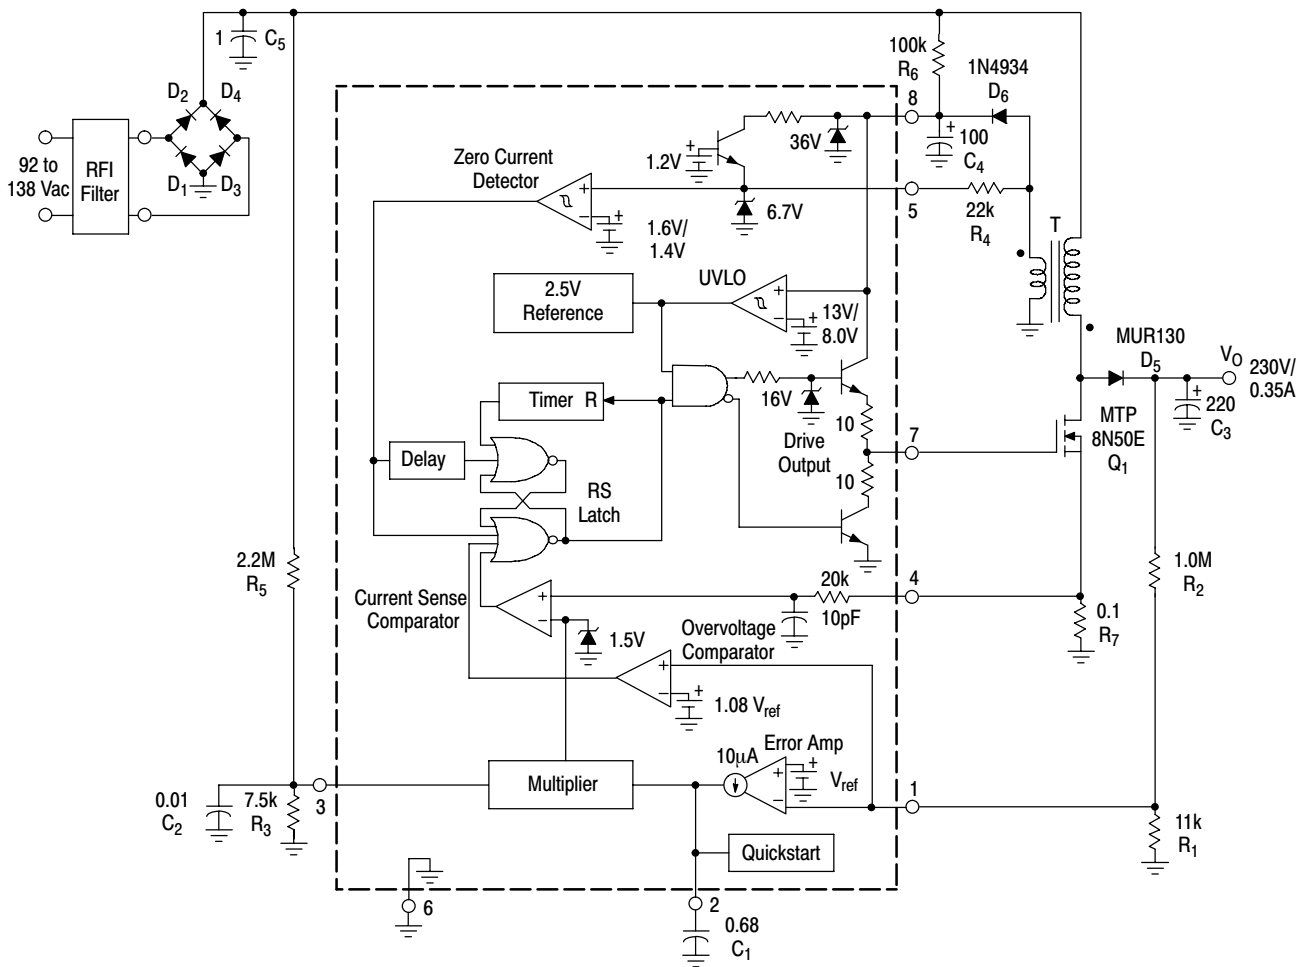
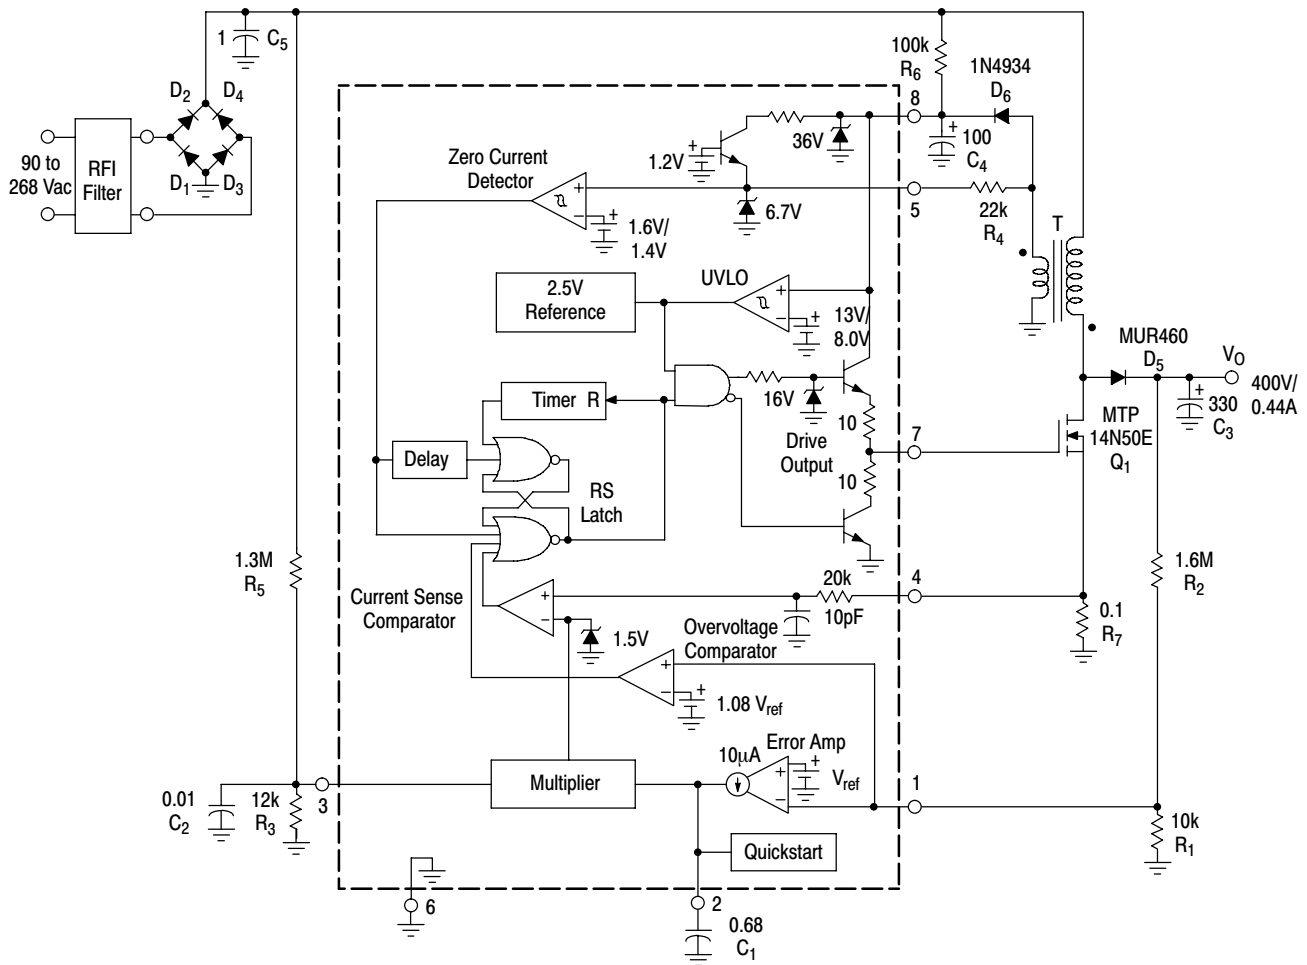
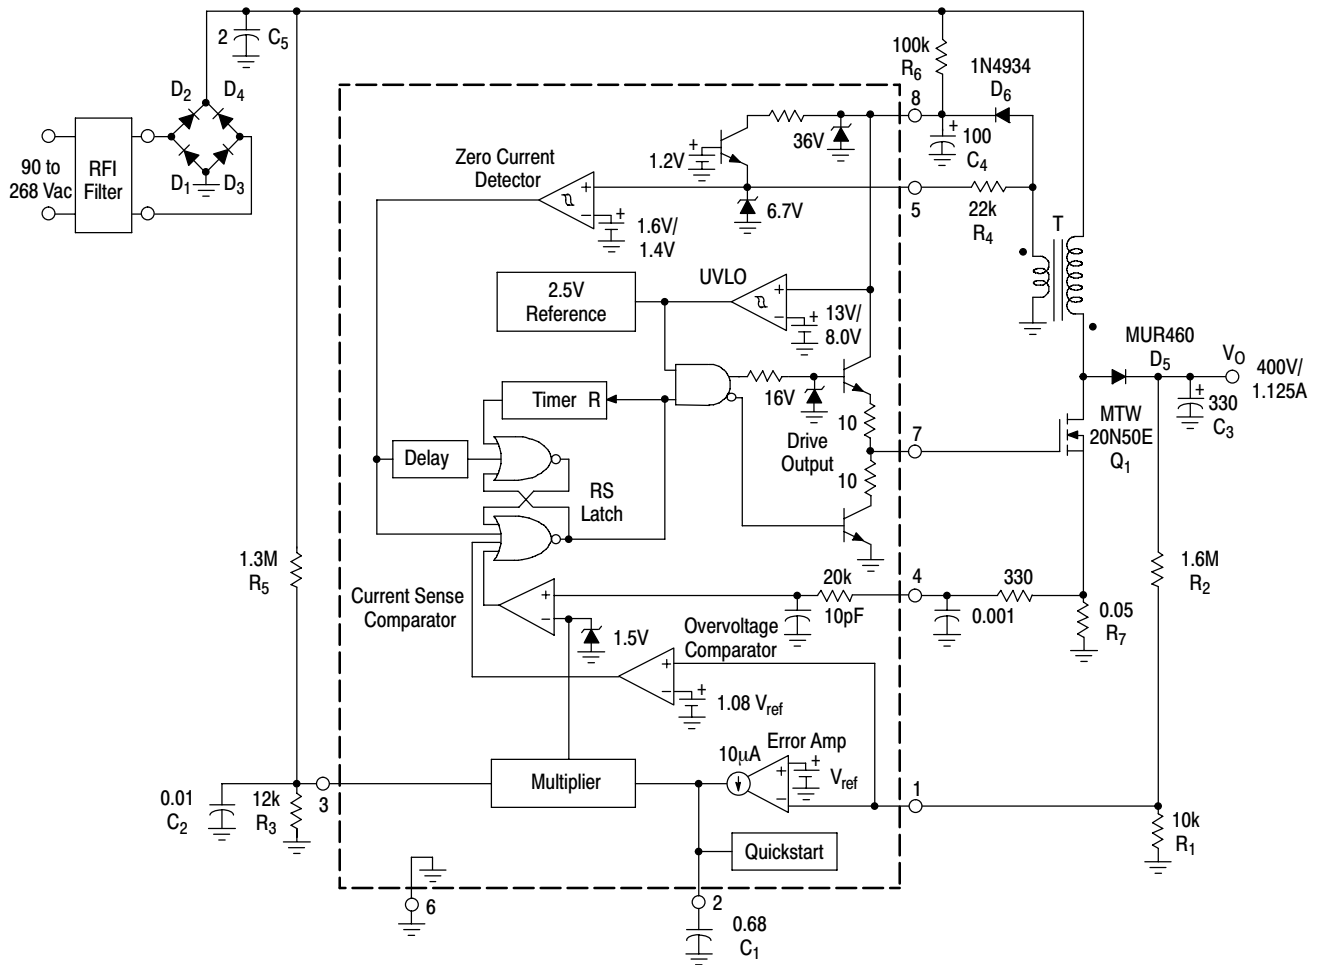
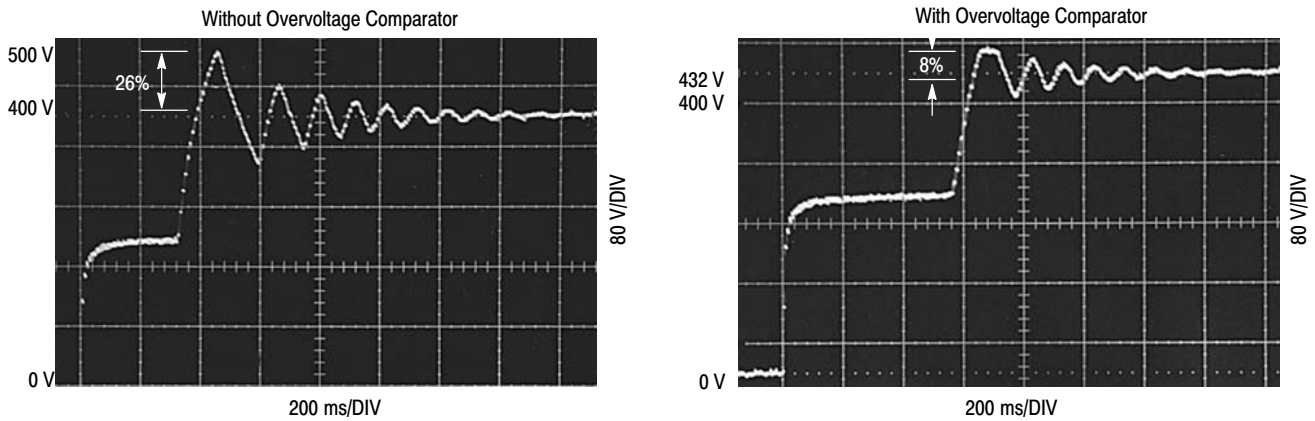

Figure 20. 80 W Power Factor Controller
Figure 21. 175 W Universal Input Power Factor Controller
Figure 22. 450 W Universal Input Power Factor Controller
Figure 24. Output Voltage Startup Overshoot (Figure 20 Circuit)
An internal RC filter has been included to attenuate any high frequency noise that may be present on the current waveform. This filter helps reduce the ac line current distortion especially near the zero crossings. With the component values shown in Figure 20, the Current Sense Comparator threshold, at the peak of the haversine varies from 1.1 V at 90 Vac to 100 mV at 268 Vac. The Current Sense Input to Drive Output turn-off propagation delay is typically less than 200 ns.
0.998 at nominal line. Figures 20 and 21 are universal input preconverter examples that operate over a continuous input voltage range of 90 Vac to 268 Vac. Figure 20 provides an output power of 175 W (400 V at 440 mA) while Figure 21 provides 450 W (400 V at 1.125 A). Both circuits have an observed worst-case power factor of approximately 0.989. The input current and voltage waveforms of Figure 20 are shown in Figure 22 with operation at 115 Vac and 230 Vac. The data for each of the applications was generated with the test set-up shown in Figure 24.
This data was taken with the test set-up shown in Figure 24.
An RFI filter is required for best performance when connecting the preconverter directly to the ac line. The filter attenuates the level of high frequency switching that appears on the ac line current waveform. Figures 19 and 20 work well with commercially available two stage filters such as the Delta Electronics 03DPCG5. Shown above is a single stage test filter that can easily be constructed with four ac line rated capacitors and a common-mode transformer. Coilcraft CMT3-28-2 was used to test Figures 19 and 20. It has a minimum inductance of 28 mH and a maximum current rating of 2.0 A. Coilcraft CMT4-17-9 was used to test Figure 21. It has a minimum inductance of 17 mH and a maximum current rating of 9.0 A. Circuit conversion efficiency η (%) was calculated without the power loss of the RFI filter.
(Circuits of Figures 20 and 21)